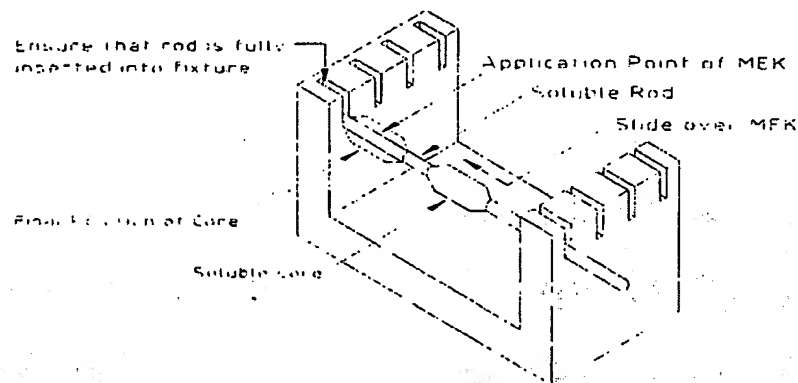

Fig. 1.0 Core Assembly Fixture
- 6.2 Insert the rod into the core and place into the core assembly fixture as shown in fig. 1.0.
- 6.3 Ensure that the soluble rod is fully inserted into the fixture (ref: fig. 1.0)
- 6.4 Position the core so that it is approximately in the centre of the rod (ref. fig. 1.0)
- 6.5 Dampen the end of a swab with MEK and wipe it around the rod approximately 1cm from the wall of the fixture (ref. fig 1.0)
- 6.6 Slide the core along the rod as illustrated in fig 1.0. Ensure that the core is flush with the wall of the fixture and that the rod is still fully inserted into the fixture. Repeat this for the ten cores in the fixture.